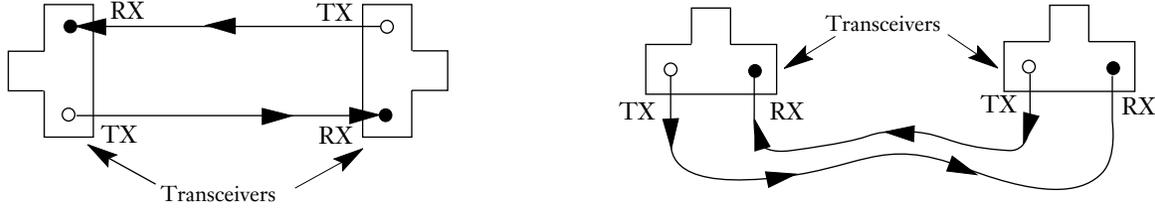

Figure 3
2.2 If a system is wired with fiber pairs, then the TX (transmitter) must route to the RX (receiver) on the distant end. Figure 3 illustrates proper TX and RX routing.